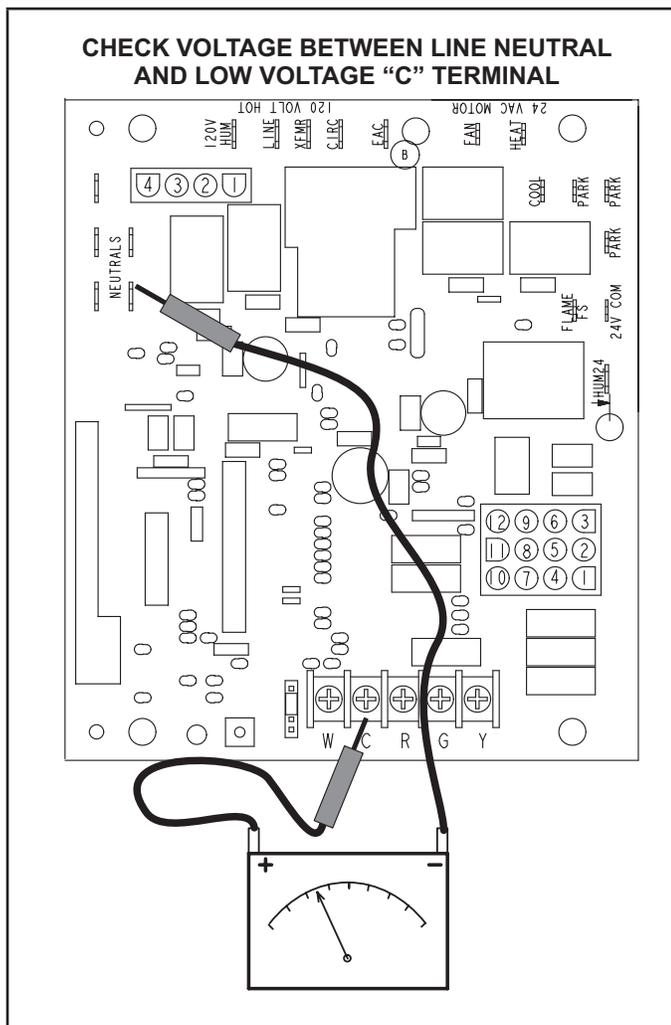

FIGURE 20
- 1 - Measure the AC voltage between Line Neutral (spade terminals) and "C" terminal (low voltage terminal block) on the integrated control. See figure 20. A wide variation in the voltage between Line Neutral and "C" as a function of load indicates a poor or partial ground. Compare the readings to the table below. If the readings exceed the maximum shown in table 14, make repairs before operating the furnace.